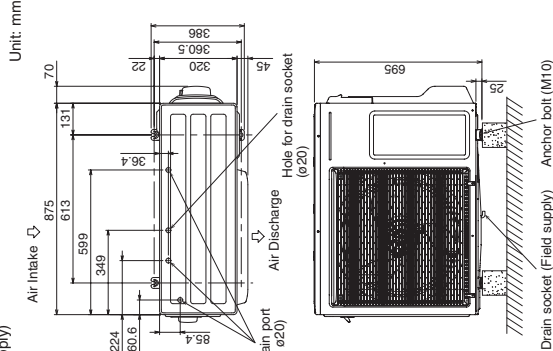

Fig. 3-1
- See Fig. 3-1 for the anchor bolt dimensions.